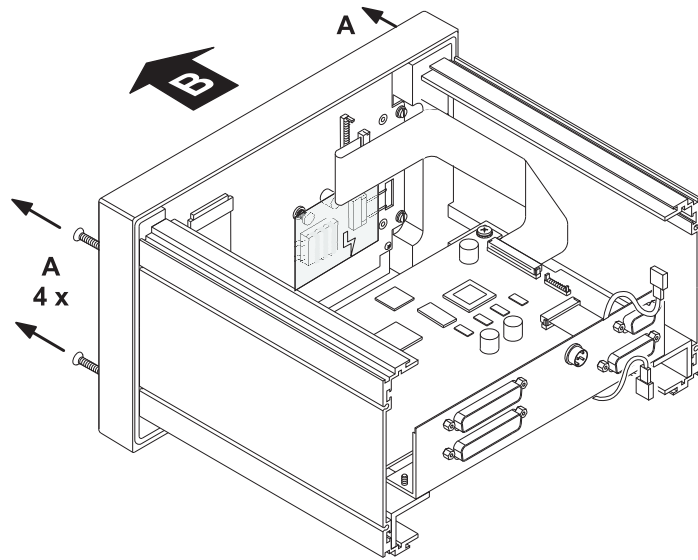

Fig. E 7-17: Removing and upending the front panel
3. With a suitable screw driver remove the Philips screws (A) from the front side of the unit. (Fig. E 7-17)
4. Upend the front panel on the work bench (B). (Fig. E 7-17)